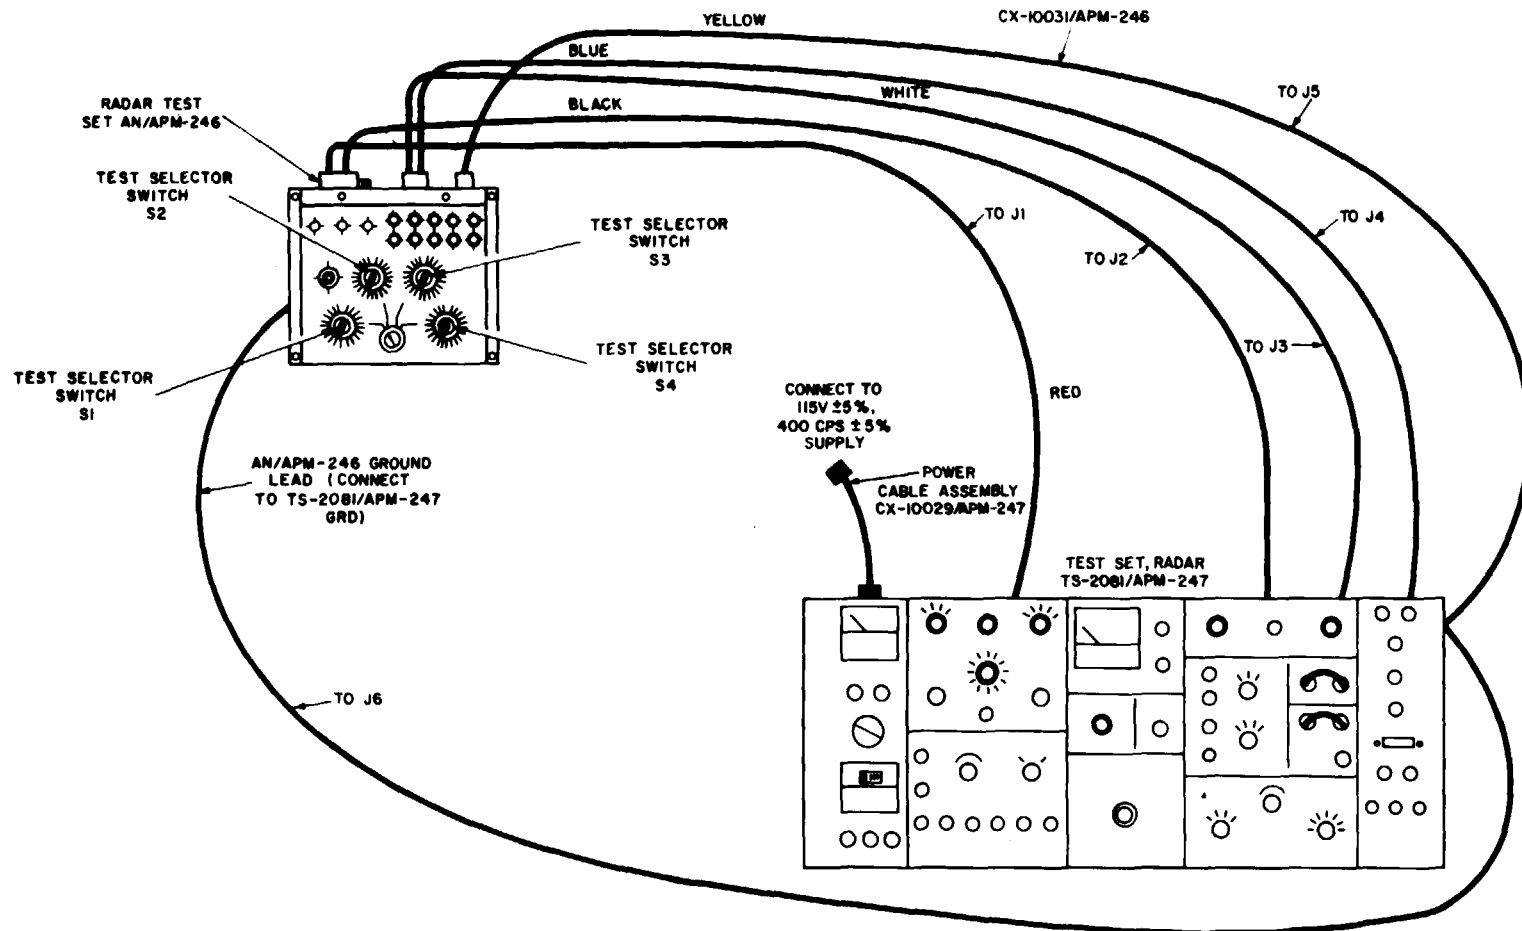

Figure 4-1. AN/APM-246 test connection diagram.
(1) Remove test set chassis from its case.
(2) Connect coaxial cables between R-T UNIT and SYNC connectors on IF subpanel, and between R-T UNIT AND SYNC connectors on AFC subpanel on AN/APM-247.
(3) Connect the equipment as shown in figure 4-1.